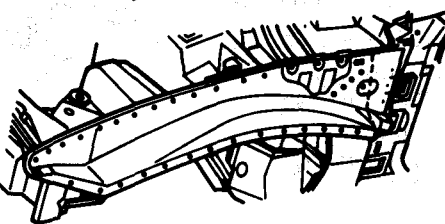

Figure 3-12.
- 8 Remove side rail assembly (Figure 3-12).